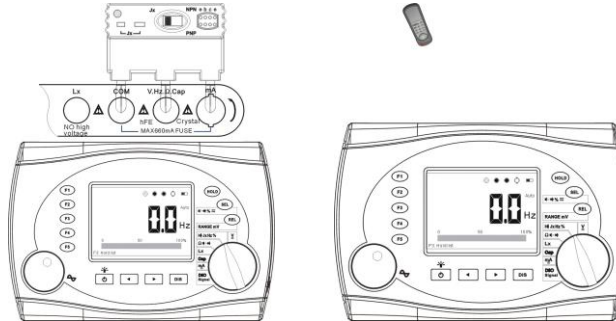

Fig21: figs for remote control (right) and crystal oscillator (left) measurements
2. Select the **h) Jx Hz %** position; connect the crystal accessory to the meter with plugging in **COM**, **V.Hz.Ω.Cap** and **mA** jacks (see the right Fig of the Fig21). Replace the switch on the crystal accessory to the **Jx** position, plug the test crystal oscillator and get the measuring result from the screen. The reading frequency is the Local Frequency of the crystal oscillator. (test range: 32kHz~10MHz, wrong result reading will be displayed if larger than 10MHz). If no reading on the screen, there are some reasons as the following: a, bad connection for crystal oscillator; b, the frequency is not in the test range; c, bad crystal oscillator; d, the fuse built-in the **mA** terminal is broken.
2. Turn the function switch to select the \approx position. (Connect as fig21). Press the REL button to select 6.000V range and press SEL button to select DC mode. Select the hFE position and plug the transistor as the symbols “N” “P” “N”/ “P” “N” “P” printed on the crystal oscillator. The measuring reading is the amplify parameters of the transistor (1.000V – 1000 times).